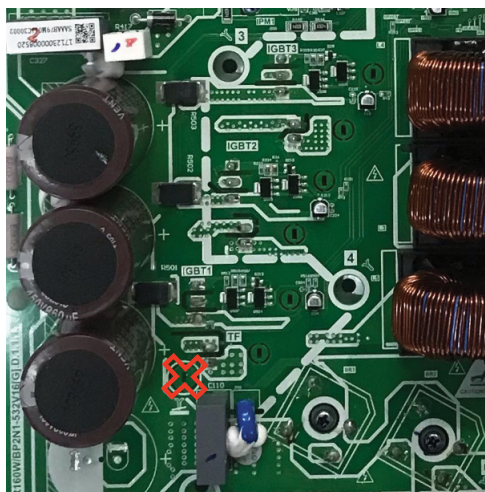

Figure 7
- Insert a small atthead screwdriver in the vertical slot at the location marked with "X" in Figure 7. Twist the screwdriver to remove the circle piece from the board.